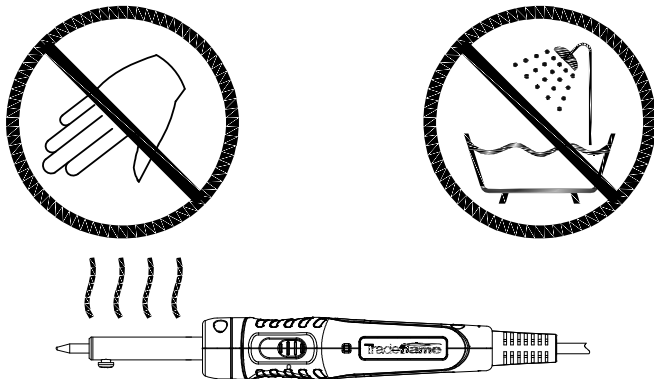

Fig. 4 - WARNING - hot tip when in use, do not touch, keep Soldering Iron clean and away from oils and lubricants. Do not immerse Soldering Iron in water
- Indoor use. Do not expose Soldering Iron to rain or wet conditions. Water entering a Soldering Iron will increase the risk of electric shock (Fig. 4)
- Keep handles and grasping surfaces dry, clean and free from oil and grease. (Fig. 4) Slippery handles and grasping surfaces do not allow for safe handling and control of the Soldering Iron in unexpected situations.
- Keep hands clear of the tip serious burns can occur if skin contacts tip (Fig. 4)
- To reduce the risk of fire, personal injury, and product damage due to a short circuit, never immerse your Soldering Iron, battery pack or charger in fluid or allow a fluid to flow inside them. Corrosive or conductive fluids, such as seawater, certain industrial chemicals, and bleach or bleach-containing products, etc., can cause a short circuit. (Fig. 4)
- To reduce the risk of injury, always wear safety goggles or glasses with side shields. Keep hands and fingers behind finger guard (Fig.1 / vii). Serious burns could occur if skin contacts a hot tip.(Fig. 4)